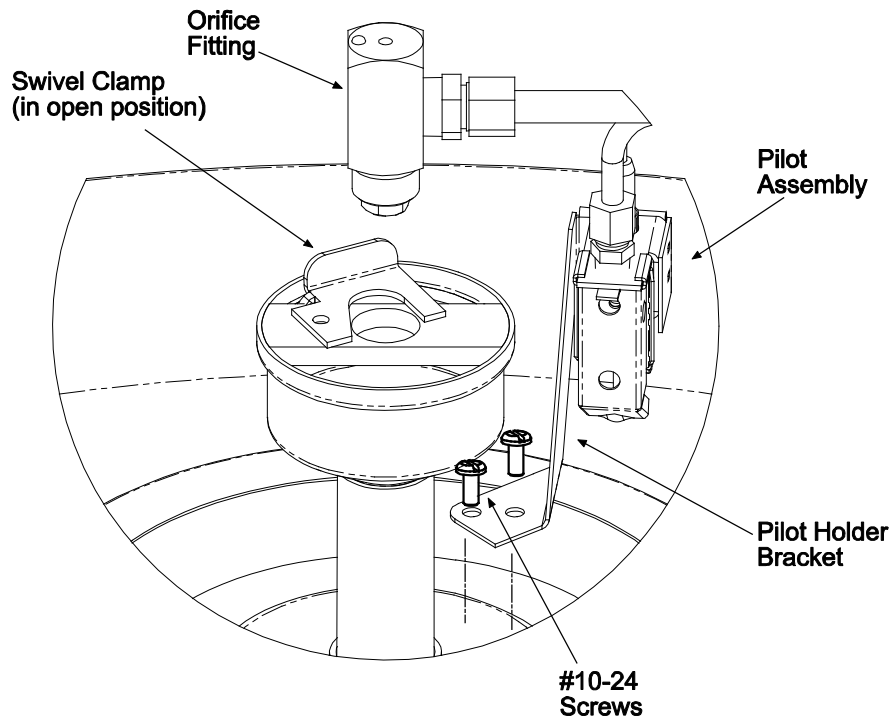

FIGURE 3a
8. Adjust the Control Arm so that the Pilot Assembly and Orifice Fitting aligns with their connection points on the main burner. Secure the Pilot Assembly as shown in Figure 3a to the burner using two (2) screws from the Fastener Kit.
9. Insert the Orifice Fitting into the burner base as shown in Figure 3a. Rotate the swivel clamp until it locks into the groove of the Orifice Fitting.